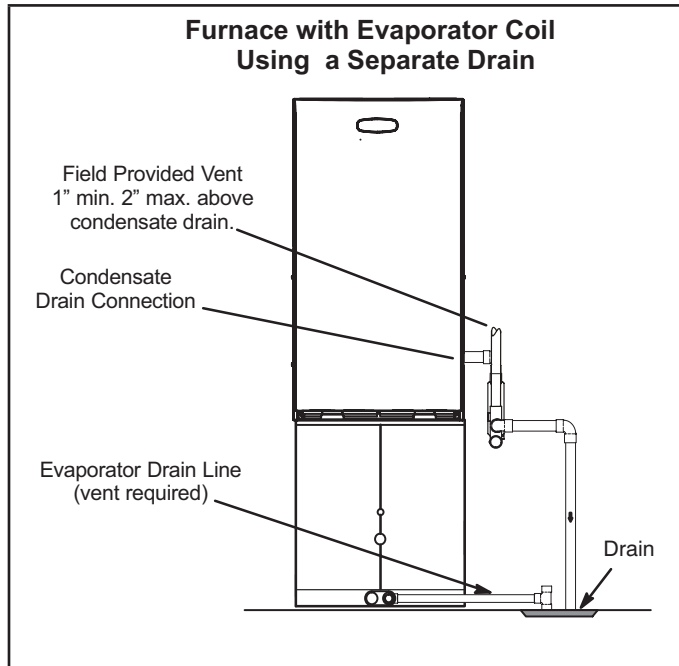
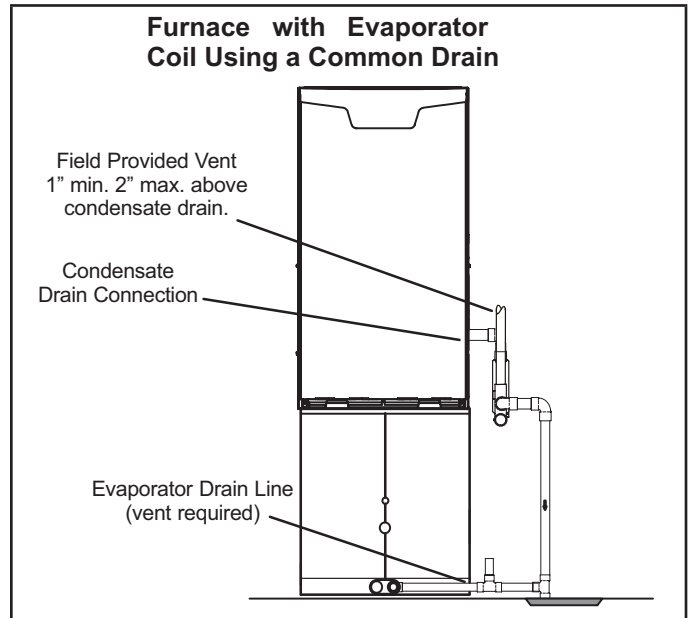

FIGURE 36
FIGURE 37
- 4 - FIGURE 36 shows the furnace and evaporator coil using a separate drain. If necessary, the condensate line from the furnace and evaporator coil can drain together. See FIGURE 37 and FIGURE 38. The field provided vent must be a minimum 1" to a maximum 2" length above the condensate drain outlet connection.